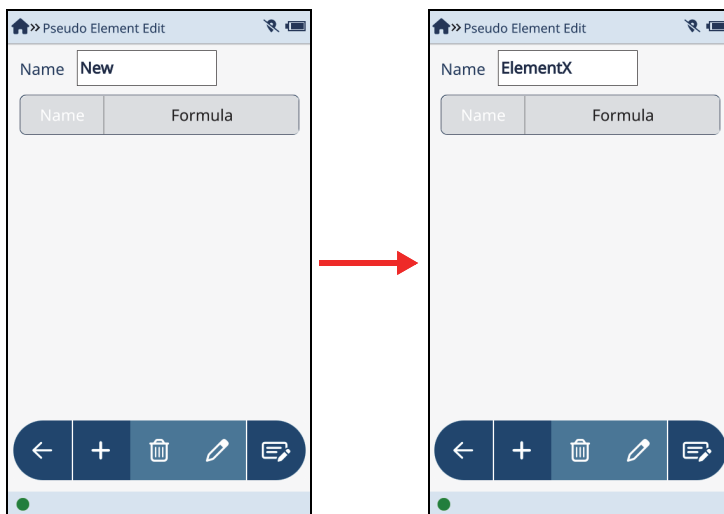

Figure 2-47 Pseudo Element Edit screen
3. On the **Pseudo Element Edit** screen (see Figure 2-47 on page 62), tap the **Name** box and enter a model name.